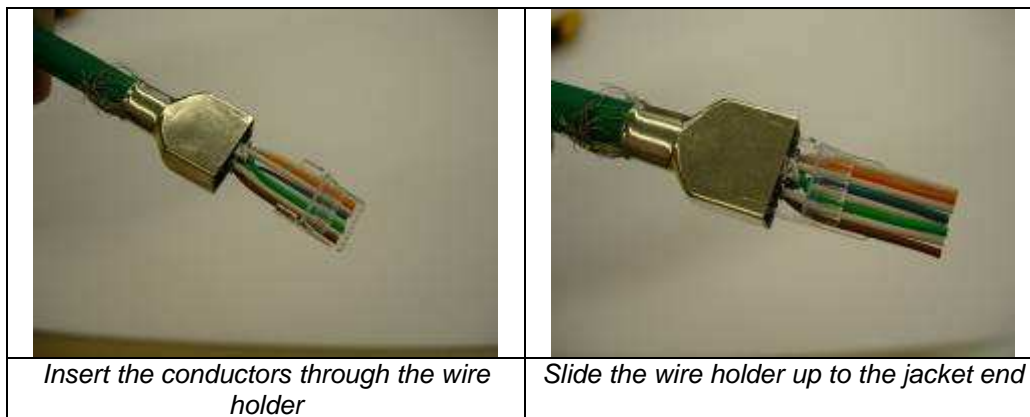

Figure 7
4. Insert the conductors through the wire holder and slide it up to the end. See Figure 7.